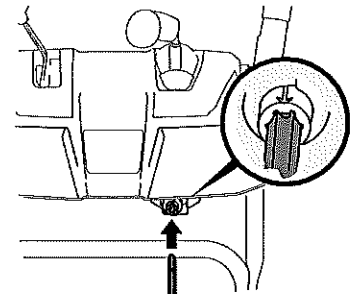

Figure 2-18
6. Insert chute control rod into pinion gear below joystick. Make sure to line up hole in rod with arrow on pinion gear. See Figure 2-18.